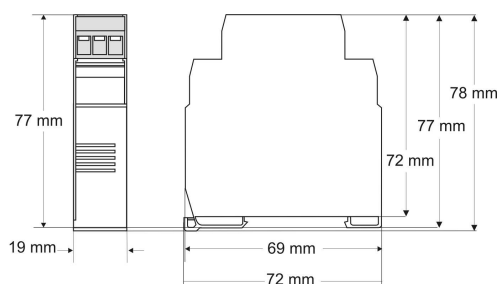

Figure 1 – Dimensions
**Dimensions:** Figure 1 shows the dimensions of the module.